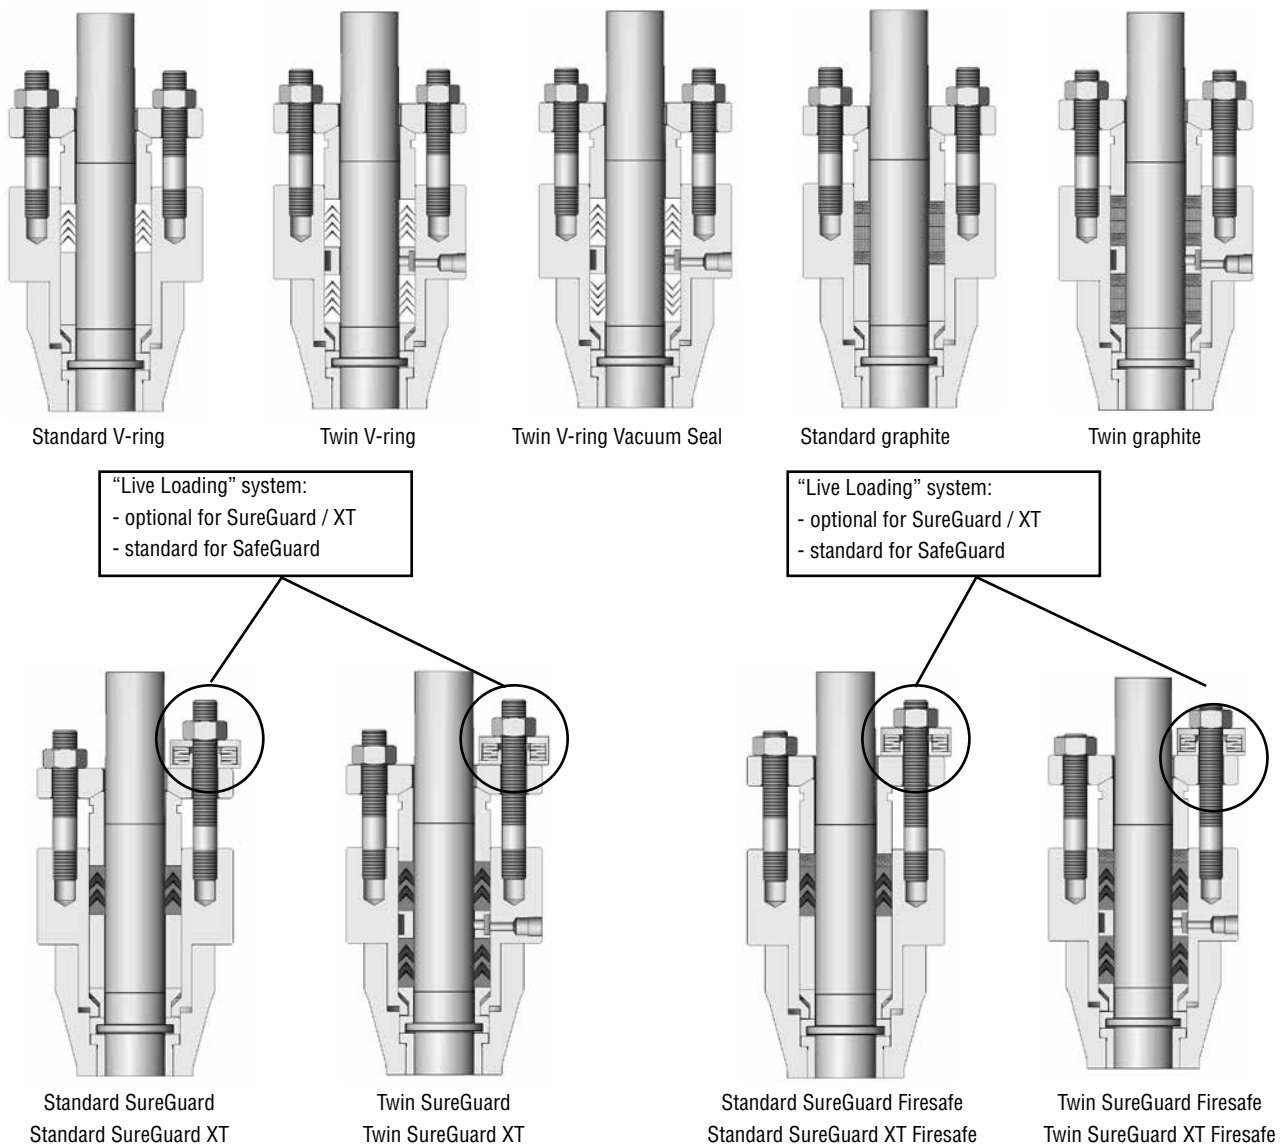

Figure 3: Packing Configurations
- 7.11 Place the packing stop (item 99) into the bonnet, then install the packing spacer (item 93) and packing as shown in figure 3.